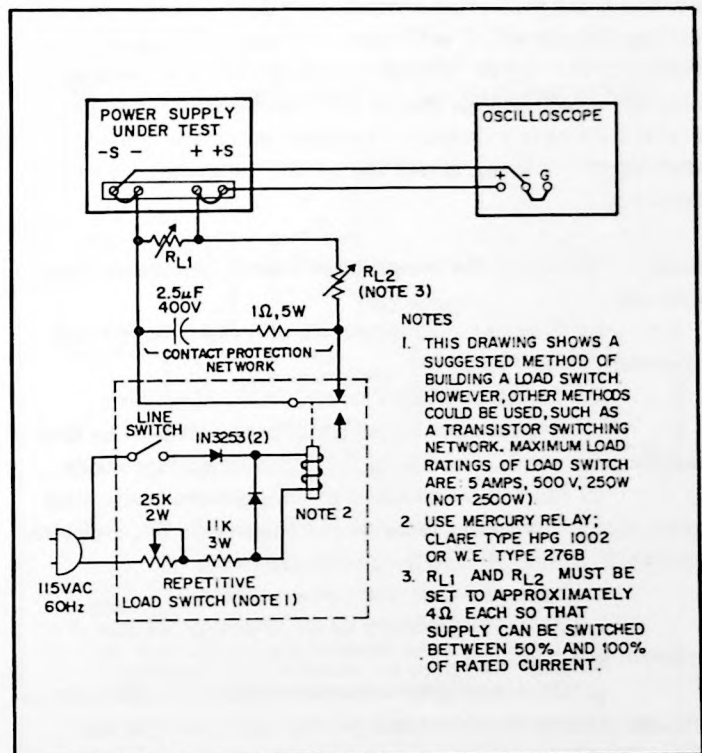

Figure 5-4. Load Transient Recovery Time, Test Setup
5-33 We suggest that a mercury-wetted relay connected in the load switching circuit shown in Figure 5-4 be used for loading and unloading the supply. When this load switch is connected to a 60Hz ac input, the mercury-wetted relay opens and closes 60 times per second. The 25k control adjusts the duty cycle of the load current switching to reduce jitter in the oscilloscope display. This relay may also be used with a 50Hz ac input. The load resistance shown in Figure 5-4 is the minimum resistance that can be used without damaging the mercury-wetted relay contacts.
- Connect load resistor R_{L1} (Figure 5-4) across output of supply. Do not connect R_{L2} and load switch at this time.
- Turn off supply and connect load switch and load resistors as indicated in Figure 5-4.